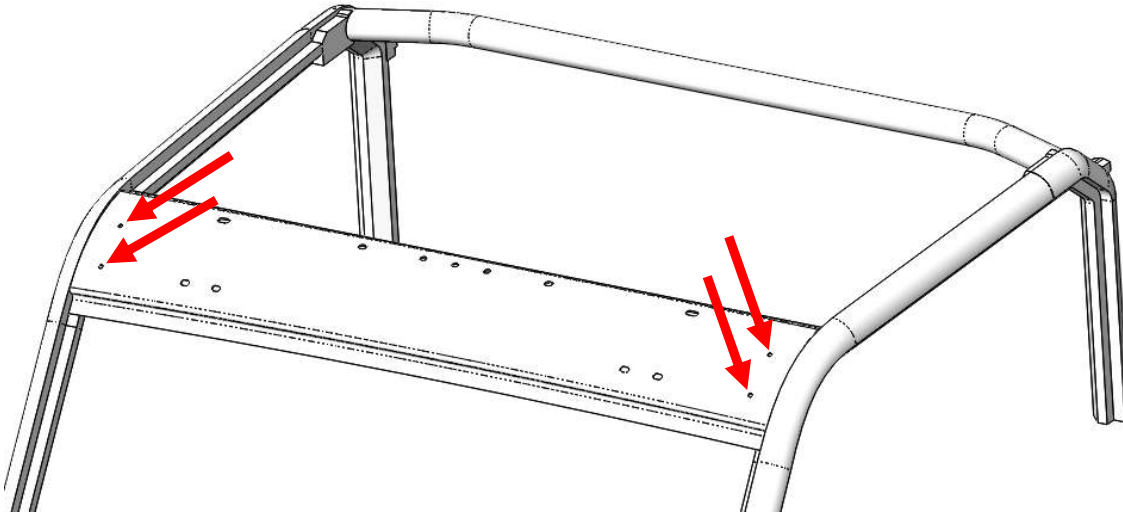
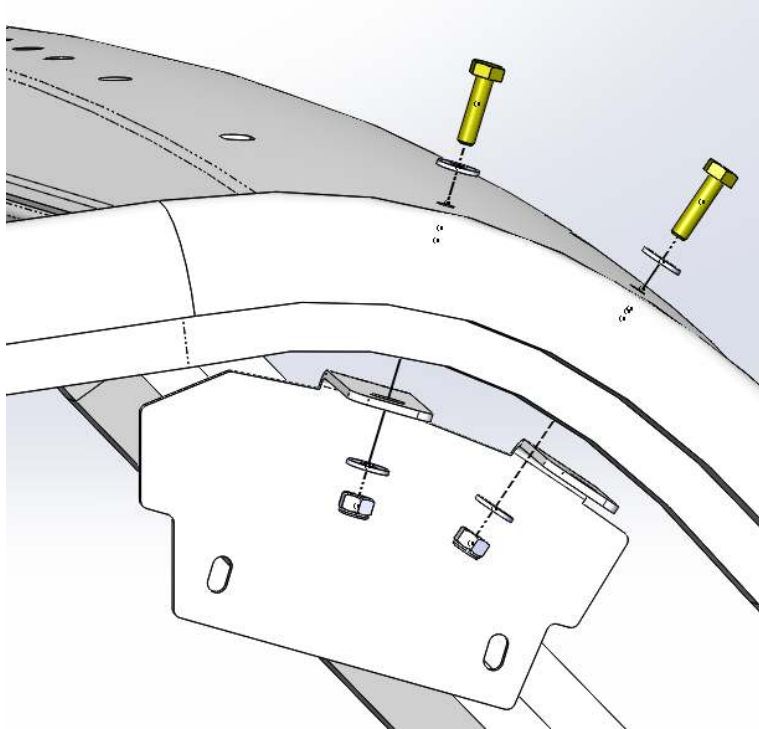

Figure 3: *Audio Mini* bracket mounting locations.
Figure 4: Mounting the *Audio Mini* brackets.
1. Align the *Audio Mini* mounting brackets with the holes shown in Figure 3. Using the supplied $\frac{1}{4}$ "-20 bolts and washers, mount the brackets and loosely tighten the nuts to allow for adjustment of the *Audio Mini* placement. Verify correct orientation of the mounting brackets. See Figure 4. **Note: If you have a roof installed, you will need to remove the roof or loosen the front mounting bolts to install the visor bolts.**